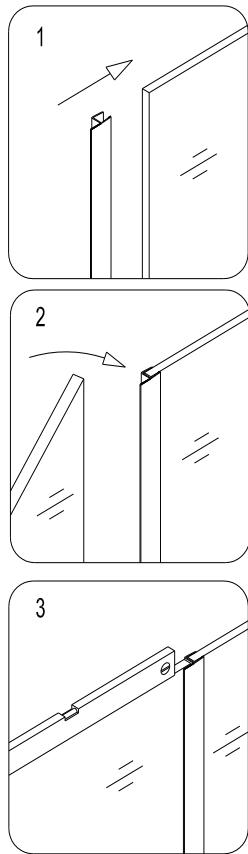

fig.9
8. Push the **Wall profile (09)** onto the **Glass profile (10)**. Push the **Single side strip (21)** on the **Stationary glass**, and place the glass on the threshold or shower tray. Close the glass door, adjust the position of the **Stationary glass** to ensure that the door is closing and opening smoothly and then align it if needed. See fig.9 for details.